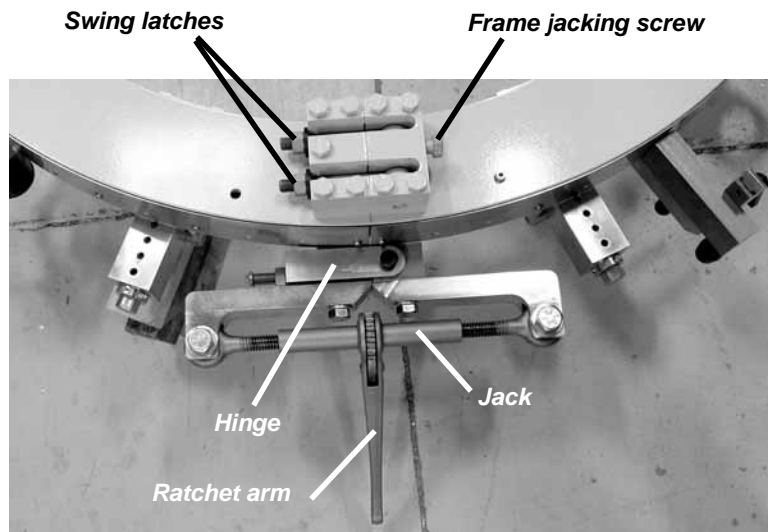

Figure 5-3. Attach the hinge and the jack to the split point.
4. There are four swing latches at each split point, as shown in Figure 5-3—two on the top (rotating) side of the frame, and two on the bottom (stationary) side of the frame. Loosen all eight swing latch nuts and swing the latches out of their channels.
5. Turn the frame jacking screws (see Figure 5-3) on the split point opposite the hinge to separate the two halves of the frame. Make sure the dowel pins are fully retracted from the other side of the frame.